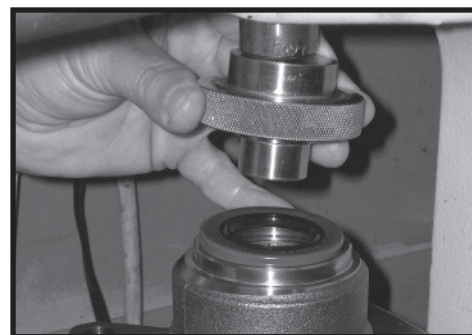

Figure 41
The Large Frame Series TF, TL, TG, TJ & TH Torqmotor™ dirt and water seal (20) must be pressed in with the lip facing out and until the seal is flush to .020 inches (.51 mm) below the end of housing. SEE FIGURE 41.